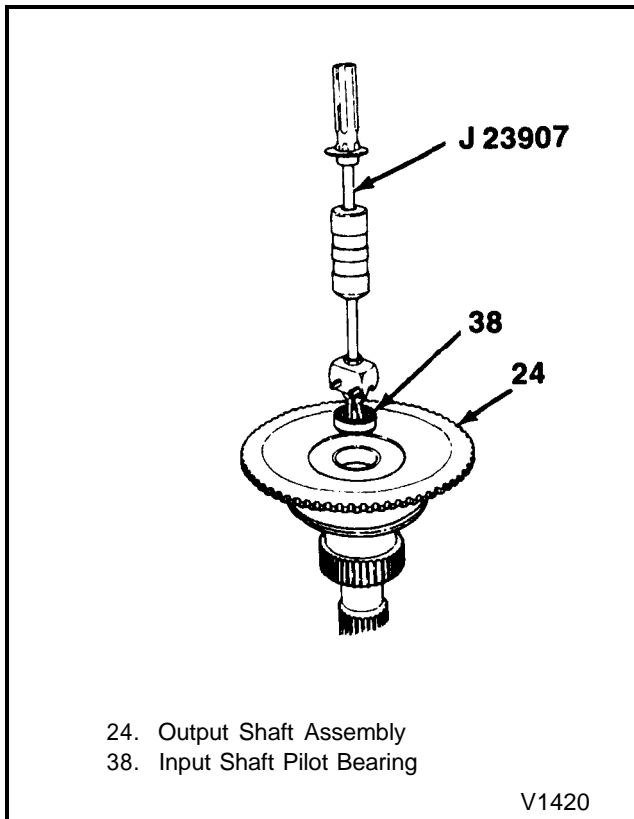

Figure 16 - Removing the Input Pilot Shaft Bearing
3. Output shaft bearing snap ring (34) from the front cover (11).
4. Output shaft bearing (35) from the front cover (11).
5. Output shaft oil seal (36) from the extension housing (8).
- Using J 22912-01, press the sun gear shaft bearing (33) from the sun gear shaft (18).
6. Drive sprocket spacer (16), drive sprocket (17) and the viscous clutch (20) from the sun gear shaft (18).
7. Input shaft pilot bearing (38) from the output shaft assembly (24) using J 23907 (figure 16).
Assemble (Figures 16 through 30)
1. Viscous clutch (20), drive sprocket (17), drive
sprocket spacer (16), and the sun gear shaft bearing (33) into the sun gear shaft (16) (figure 16).